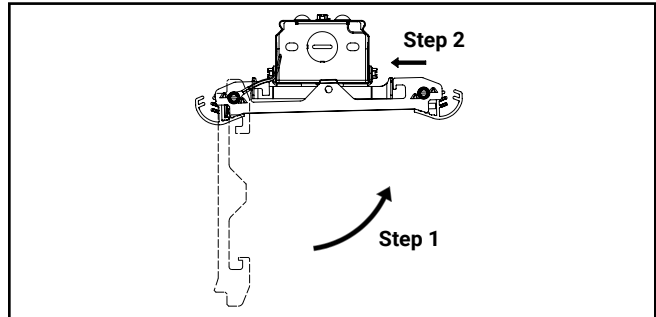

Figure 3.3
- Rotate waveguide assembly toward the other end of the channel hinge bracket then move waveguide horizontal and upward simultaneously toward channel. (Figure 3.3)